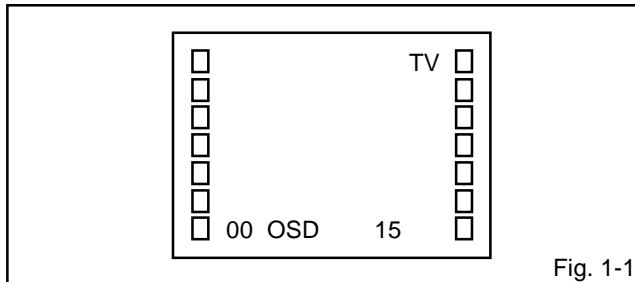

Fig. 1-1
Press the VOL. DOWN button on the set and the channel button (9) on the remote control for more than 1 second to appear the adjustment mode on the screen as shown in Fig. 1-1.
3. Activate the adjustment mode display of Fig. 1-1 and press the channel button (02) on the remote control to select "RF AGC".
3. Activate the adjustment mode display of Fig. 1-1 and press the channel button (01) on the remote control to select "CUT OFF".